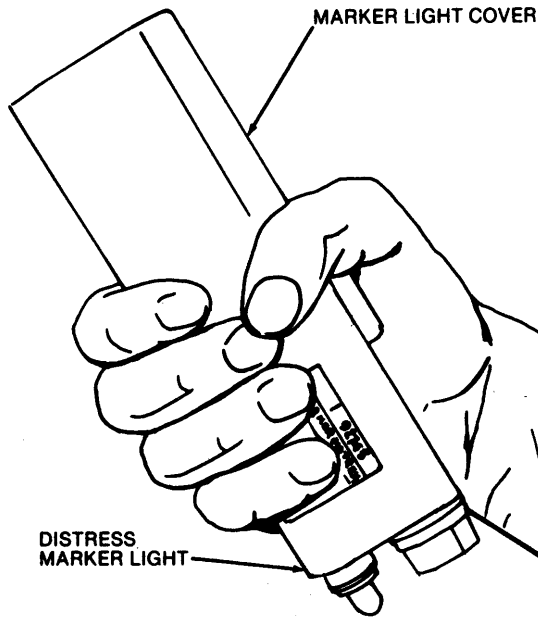

Figure 2-6. Distress Marker
2-44. SDU-5/E DISTRESS MARKER (Figure 2-4; item 1) See Figure 2-6.